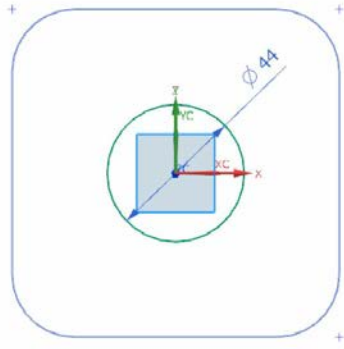

Figure 6-97 The sketch for the second feature
- b. Draw the sketch of the second feature, which is a circle, and extrude it, refer to Figures 6-97 and 6-98.
2. Draw the sketch for the second feature which is a circle of diameter 44, refer to Figure 6-97. Next, choose the **Finish Sketch** tool from the **Direct Sketch** group to exit the sketching environment.